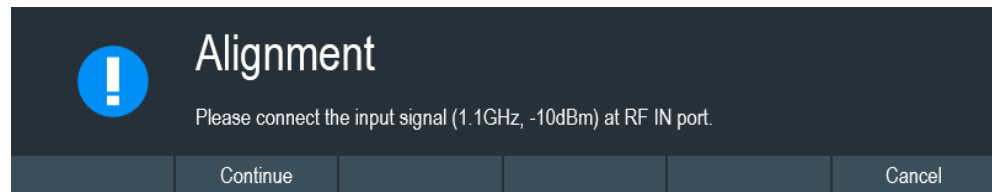

Figure 4-4: Input signal for frequency clock alignment
3. Select "Yes" to overwrite existing default alignment data and proceed to perform alignment. The R&S Cable Rider ZPH displays the "Alignment" dialog. Depending on the selected alignment item, different input signal is required. See Figure 4-4 and Figure 4-5.